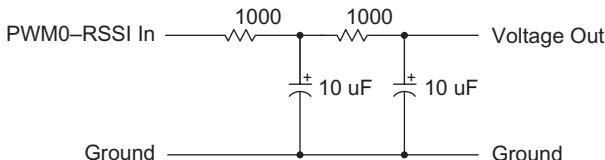

FIGURE 5.8 This simple low-pass filter produces an average voltage output from the pulses created at the PWM0 output at the RCVR XBee module.
Step 13. In some cases you need a real voltage output, not a series of pulses. You can build an electrical low-pass filter that smoothes the pulses into a voltage output. The circuit diagram in Figure 5.8 shows a simple filter that
But at the RCVR module, the PWM output continues to produce signals that vary from 0 to 3.3 volts as their widths change. If you use a filter circuit, such as that shown in Figure 5.8, on the PWM output you see the filter's Voltage Output signal vary from 0 volts to 3.3 volts rather than from 0 to 2.5 volts measured at the transmitter. You have two ways to handle this mismatch: